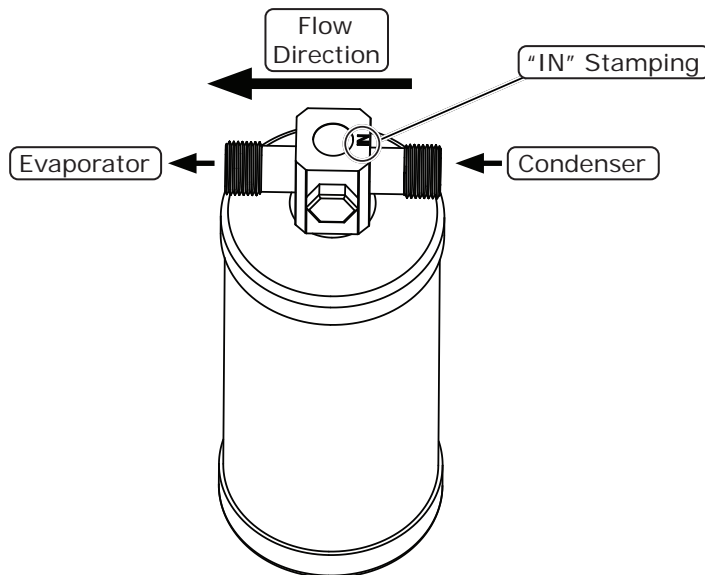

Figure 1
2. Install the drier into the bracket and secure it using a 1/4-20 hex nut with star washer as shown in Photo 3, below. Leave loose. **NOTE: Ensure proper flow direction on drier (See Figure 1, below).**